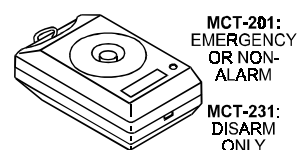

Figure 22. MCT-231 / 201
**B. MCT-231 / 201\*** (Fig. 22): Single-button pendant units. The MCT-231 (CodeSecure) and the MCT-201 (PowerCode) can be enrolled to perform functions as shown. Both units look alike.